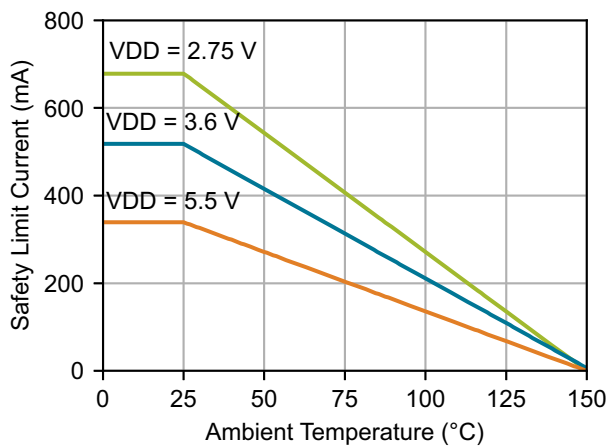

Figure 22. (NB SOIC-16) Thermal Derating Curve, Dependence of Safety Limiting Current
1. Maximum value allowed in the event of a failure; also see the thermal derating curve in Figure 22, "(NB SOIC-16) Thermal Derating Curve, Dependence of Safety Limiting Current," on page 38.